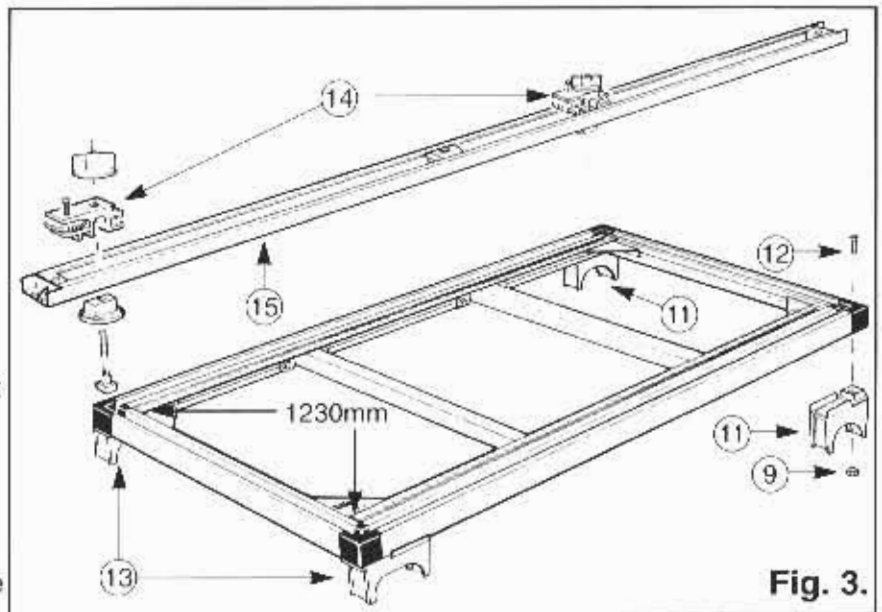

Fig. 3.
Plug the two smaller Inner Bearings (11) into the corner blocks below the "380mm" scale readings and tighten using the Countersunk Screws (12) and Hex Nuts (9). The two longer Outer Bearings (13) are fitted to the corner blocks near the 1230mm scale readings as in Fig. 3.
Take apart the Fence Clamp Assemblies (14) and reassemble them through the slot in the Fence Assembly (15) as shown in Fig. 3.